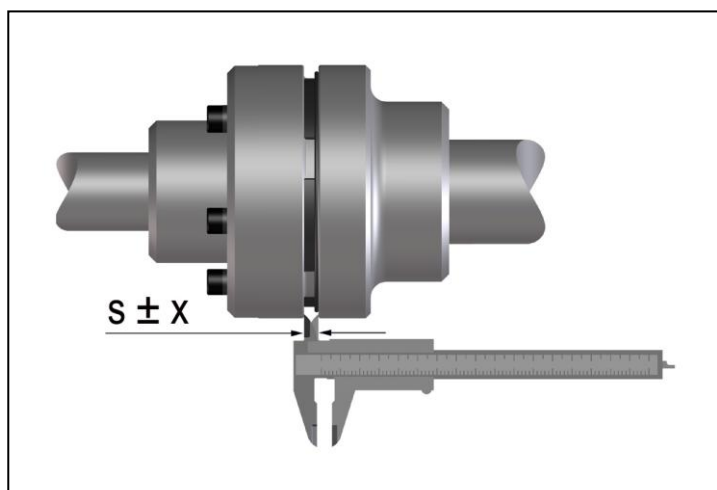

Fig. 8
- Measure the axial S gap measurement according to figure 8.